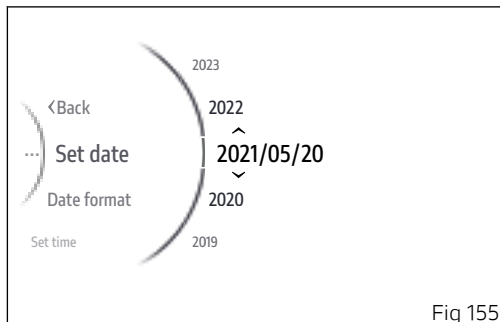

Fig 155
- From the Interactive Menu, use buttons (1) and (2) to select the item "Setting menu" and press ENTER (3).
- Select the "Date and time" item and press ENTER (3).
- Select the "Set date" item and press ENTER (3).
The first parameter of the date (the year in the example) becomes selectable and is displayed with two arrows placed above and below it; the available values for the displayed parameter are also displayed above and below it (Fig 155). Use buttons (1) and (2) to scroll and select the desired value. Press ENTER (3) to confirm and move on to the following parameter.